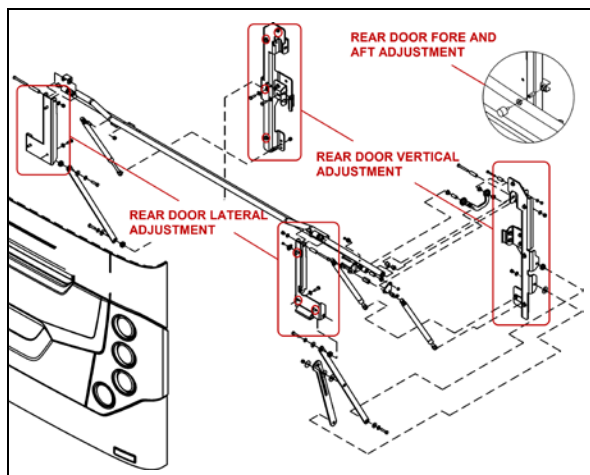

FIGURE 44: ENGINE COMPARTMENT DOOR
1. To adjust the door VERTICAL position, loosen the bolts (4 on each side) holding the door supporting arm and gas springs bracket to the *vehicle structure* (Figure 44).
2. To adjust the door LATERAL position, loosen the bolts (3 on each side) holding the door supporting arm and gas springs bracket to the *door* (Figure 44).
3. Adjust the door FORE & AFT position by screwing/unscrewing the rubber door stops on each side of the door opening (Figure 44).